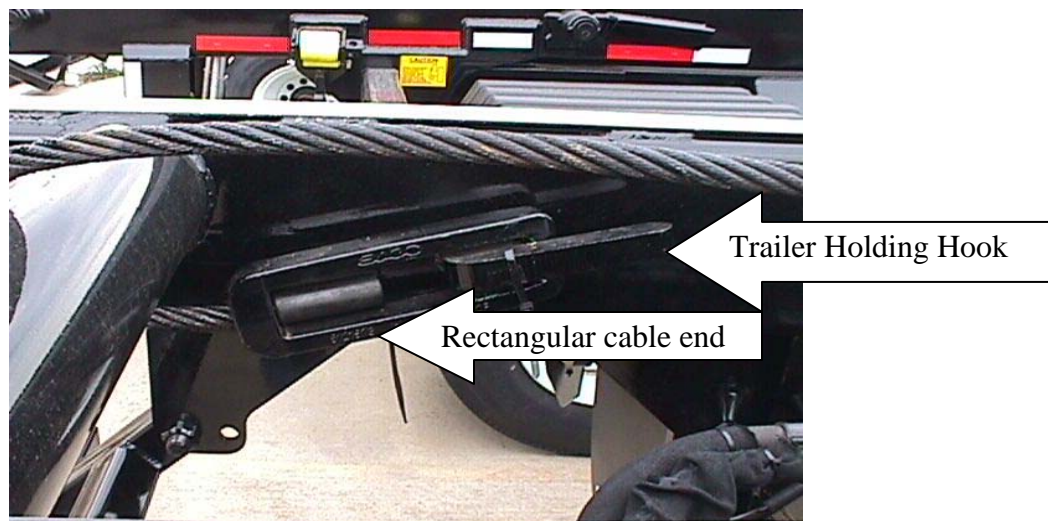

Figure 9
- Hook the rectangular cable end onto the trailer’s holding hook (Ref. Figure 9) and pull the cable tight.